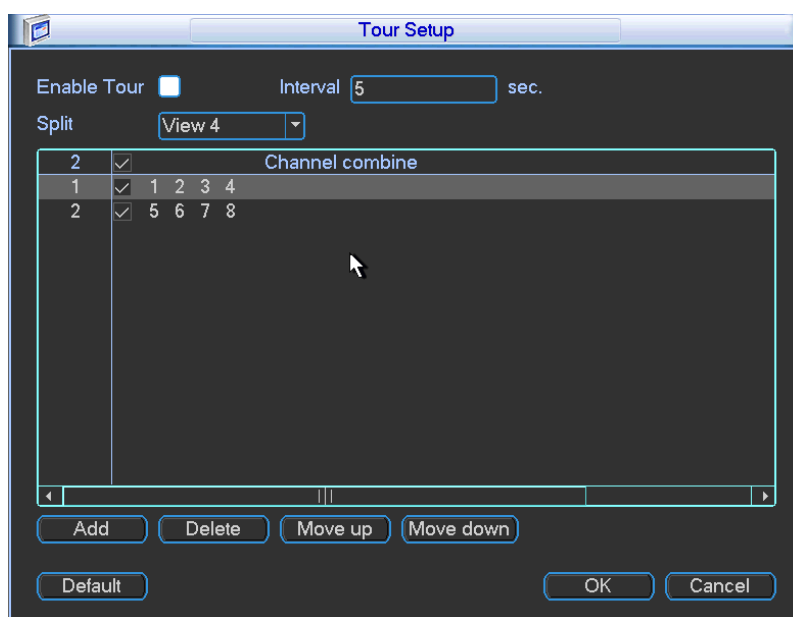

Figure 5-42
- z Tour setup: Here you can activate tour function. Click Setup button, you can see an interface shown as in Figure 5-42.